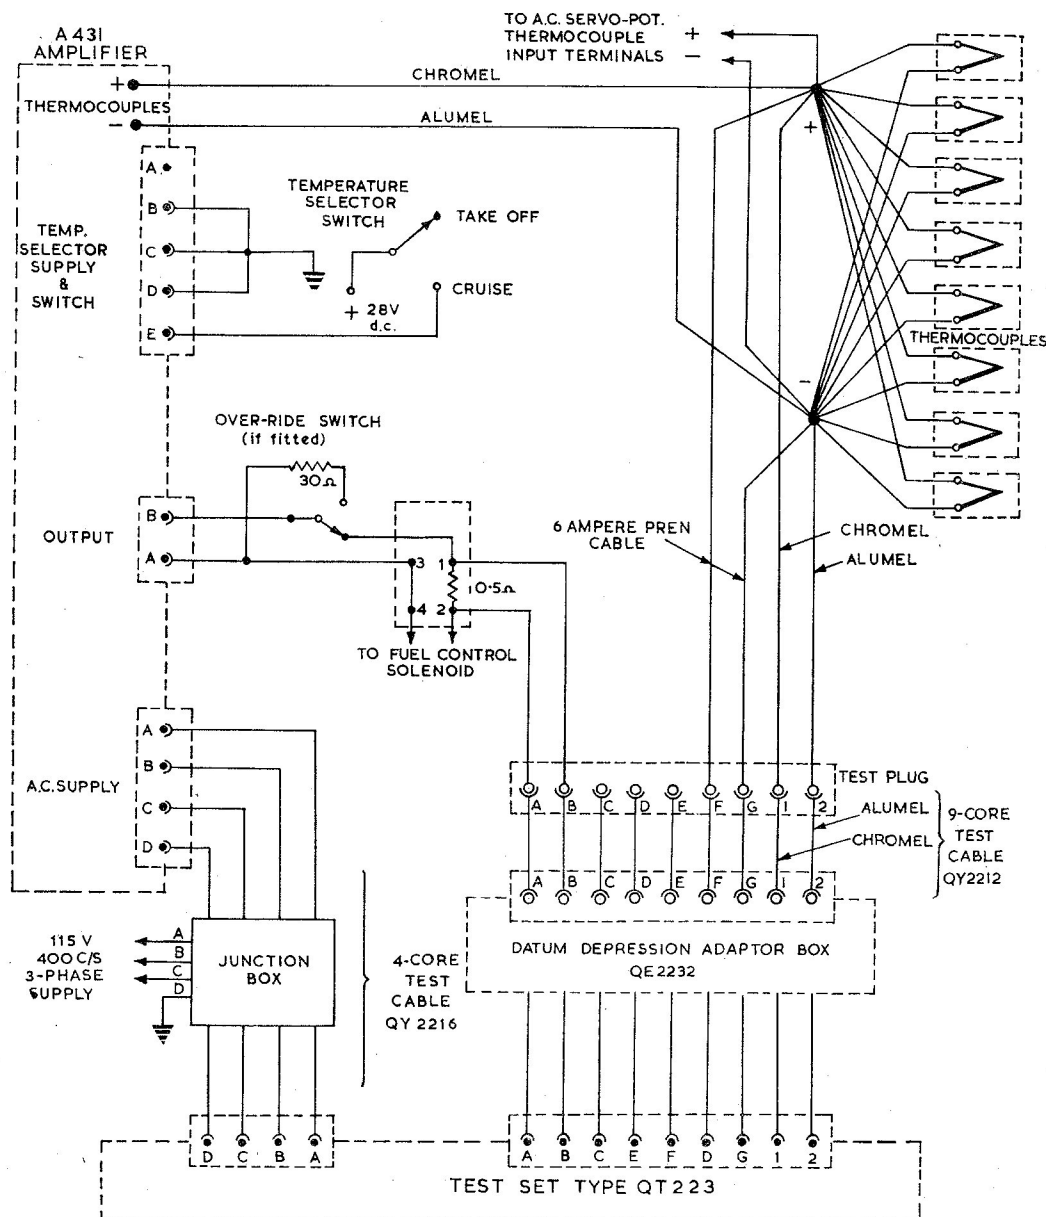

Fig. 6. Aircraft test circuit
40. The equipment required for the aircraft test, using Ultra QE2230 test set, is detailed below and is connected as shown in the test circuit (fig. 6).
47. (1) Set aircraft TEMPERATURE SELECTOR switch (fig. 6) to the TAKE-OFF position.